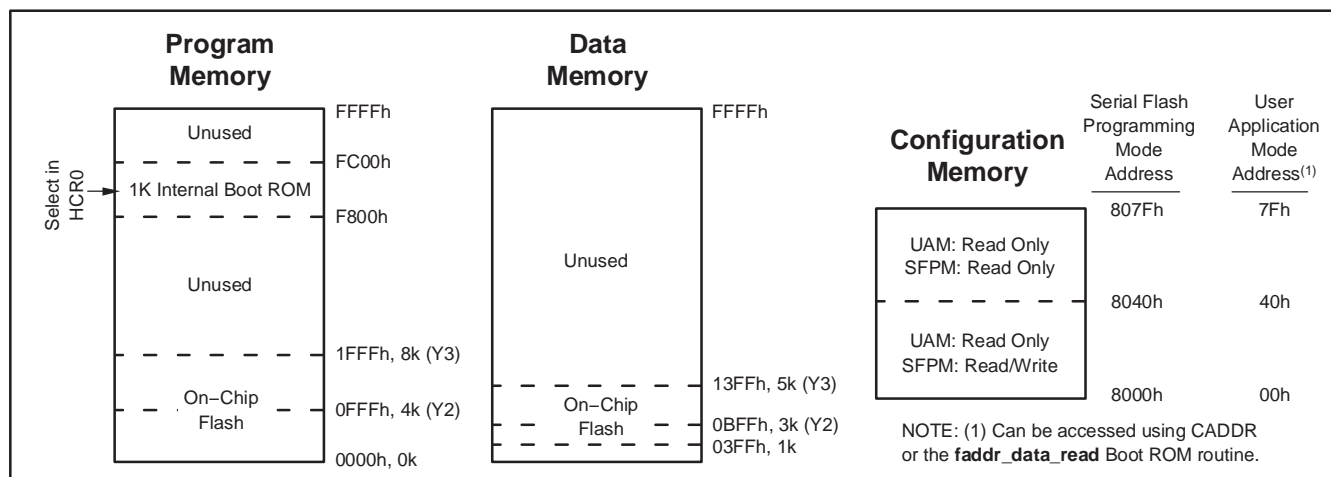

Figure 20. Memory Map
The MSC120x allow the user to partition the Flash Memory between Program Memory and Data Memory. For instance, the MSC120xY3 contain 8kB of Flash Memory on-chip. Through the hardware configuration registers, the user can define the partition between Program Memory (PM) and Data Memory (DM), as shown in Table 3, Table 4, and Figure 20. The MSC120x families offer two memory configurations.
As part of the lower 128 bytes of RAM, there are four banks of Working Registers, as shown in Figure 20. The Working Registers are general-purpose RAM locations that can be addressed in a special way. They are designated R0 through R7. Since there are four banks, the currently selected bank will be used by any instruction using R0–R7. This design allows software to change context by simply switching banks. Bank access is controlled via the